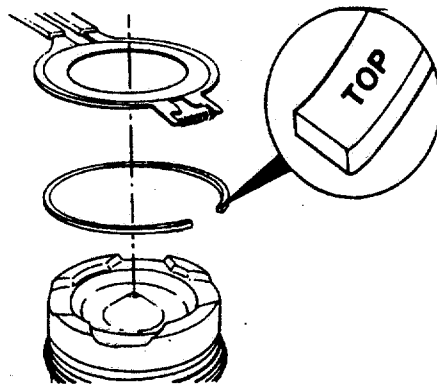

FIGURE 4-38. *Installing Rings.*
- (1) Use a piston ring expander to install the piston rings (3, 4, 5, 6) with the part number, mark, or the work "TOP" toward the top of the piston (FIGURE 4-38).